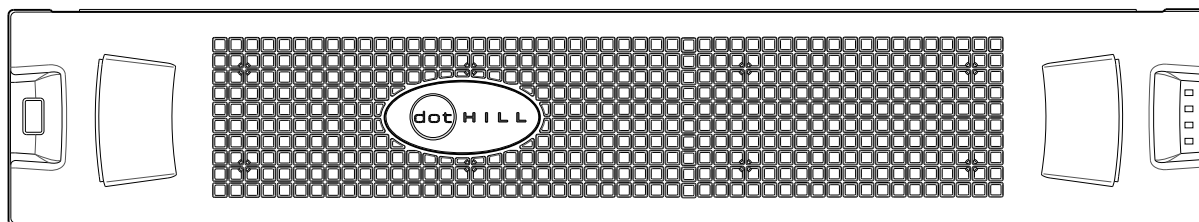
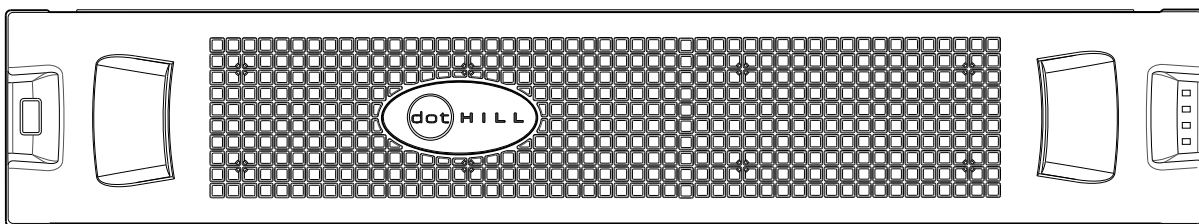

Figure 26 Front panel enclosure bezel: 24-drive enclosure (2U24)
Figure 27 Front panel enclosure bezel: 12-drive enclosure (2U12)
Each AssuredSAN 3004 Series enclosure is equipped with a removable bezel designed to cover the front panel during enclosure operation. The bezels look very similar, but there are differences between the two models. The bezel fitting the 2U24 chassis provides two embossed pockets used during bezel removal (Figure 26); whereas the bezel fitting the 2U12 chassis provides two debossed pockets, is equipped with an EMI (Electromagnetic Interference) shield, and may or may not be equipped with the serviceable dust filtration air filter option (Figure 27).
- Front view of 24-drive enclosure (2U24): Figure 26
- Front view of 12-drive enclosure (2U12): Figure 27